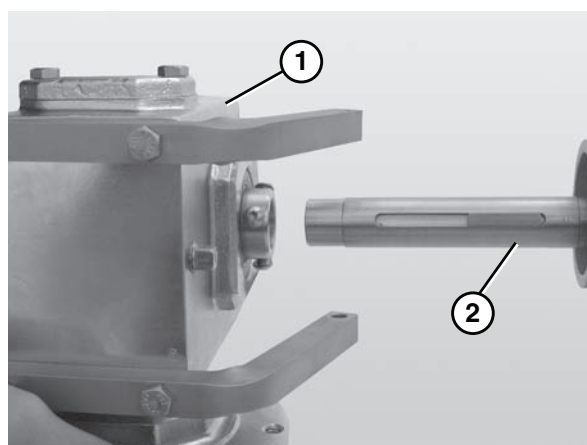

Figure 14
2. Slide the gear reducer (Figure 14, item 1) onto the drive spindle (Figure 14, item 2).